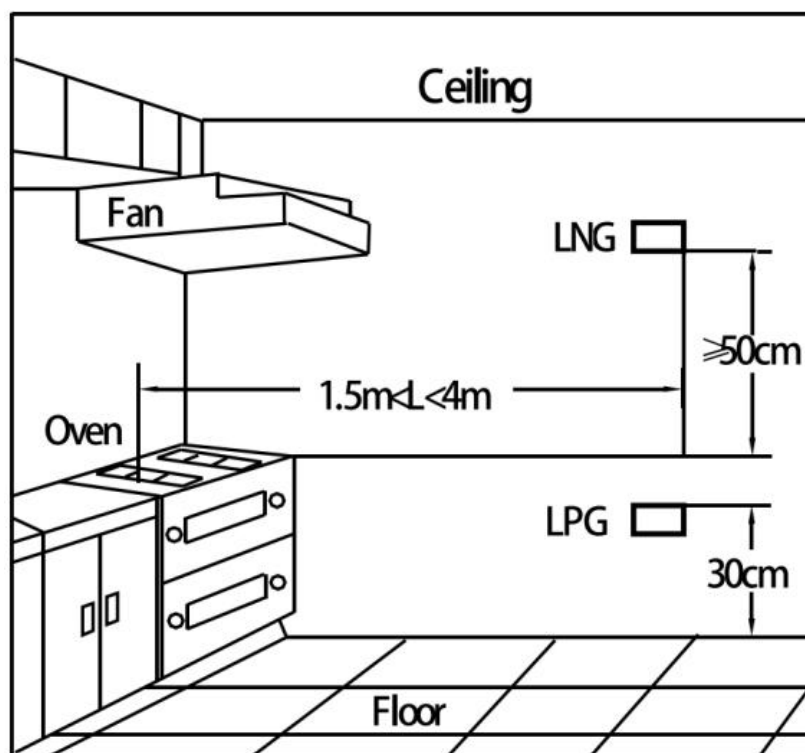

Figure 11. Install Location
7.2 Because of the difference air density of LPG/LNG, please noted that different gas type detectors are with different installation position. LNG type detector is installed on high location. LPG type detector is installed on low location. Please refer the figure 11.